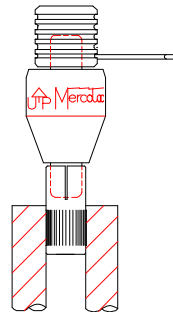

Fig 3 110-T Mounting
2. The connector can be held or mounted by the body or the receptacle <Fig 2>, and was not designed to carry mechanical loads. One end should be allowed to float, attached only by the connecting wires. In horizontal applications mount the connector with the body rotating to reduce mechanical loads on the bearing. (Model 110 may be excepted). There is a spring tension fit between the cap or receptacle and the contacts. The cap is usually mounted to the bearing end. <Fig 3>. **Never rigid mount both ends of the connector. This will cause connector failure.** Limit mounting eccentricity to .005" (.13mm).